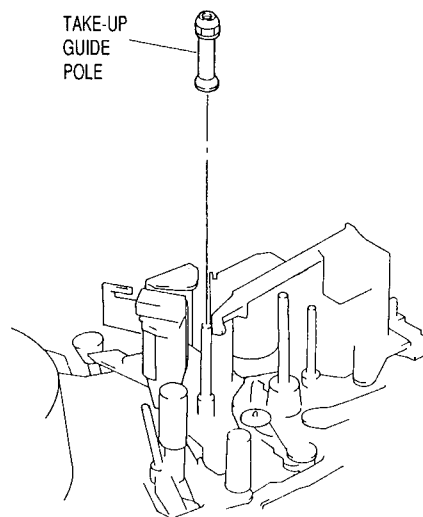

Fig. 3-21
- 1) Turn the nut (5.0mm) at the top of the take-up guide pole and remove the take-up guide pole. (See Fig. 3-21)